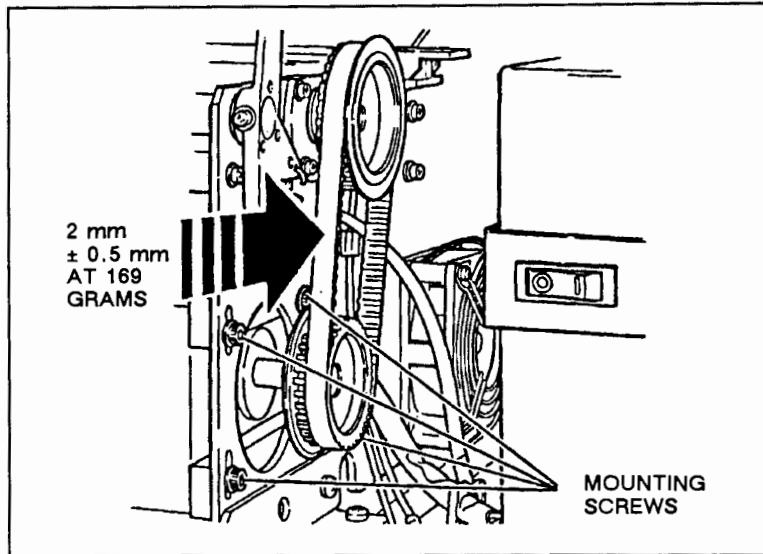

Figure 6-1. Motor Belt Adjustment
- a. Turn the plotter line switch to OFF (O) and disconnect the ac power cord.
- c. Using a 4 mm Allen wrench, loosen the four screws on the motor mounting plate. See Figure 6-1.